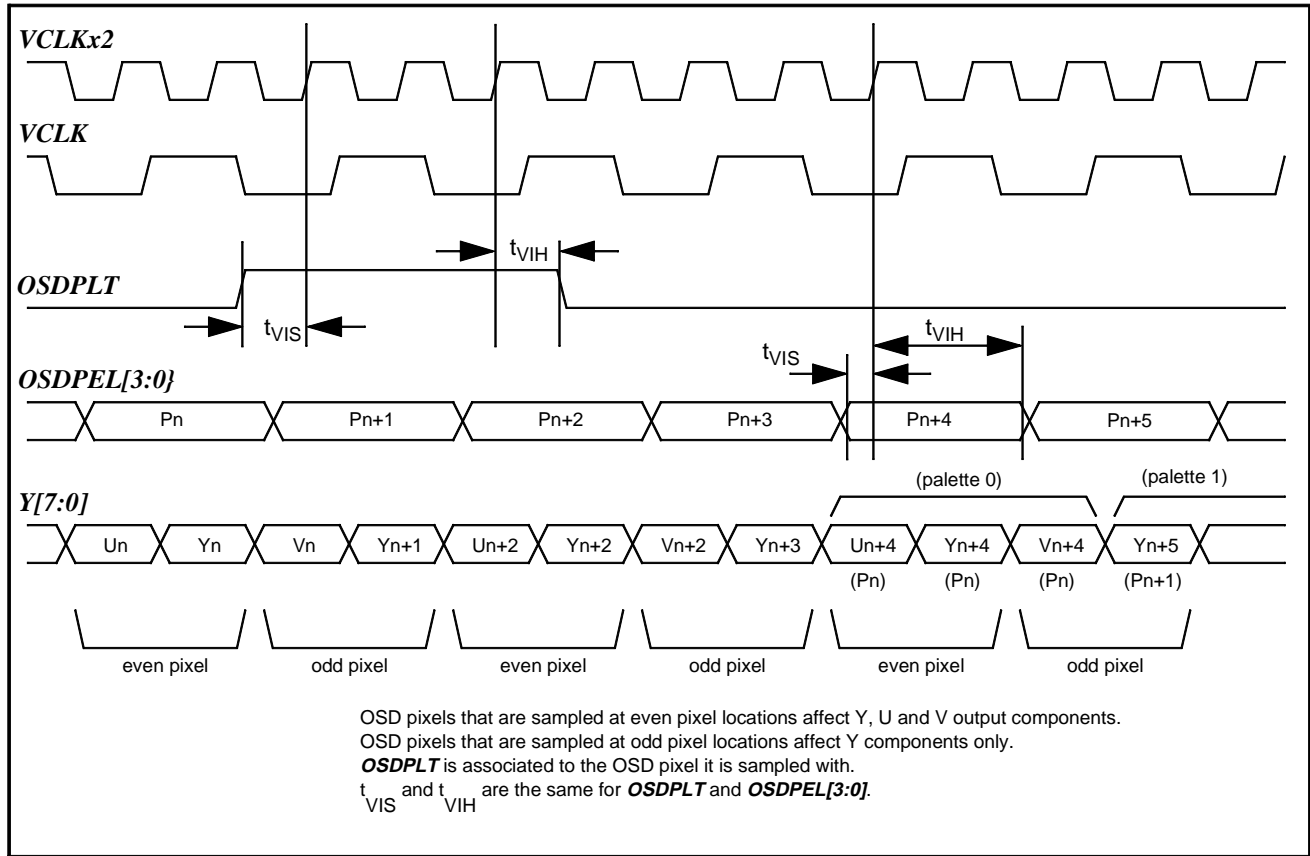

FIGURE 48. External OSD Interface Timing
- *C[4] = OSDPLT*: A low level on this input indicates using *OSDPalette0*, a high level indicates using *OSDPalette1*. As shown in Figure 48, there is a 3 pixel delay when the change in palette takes effect.